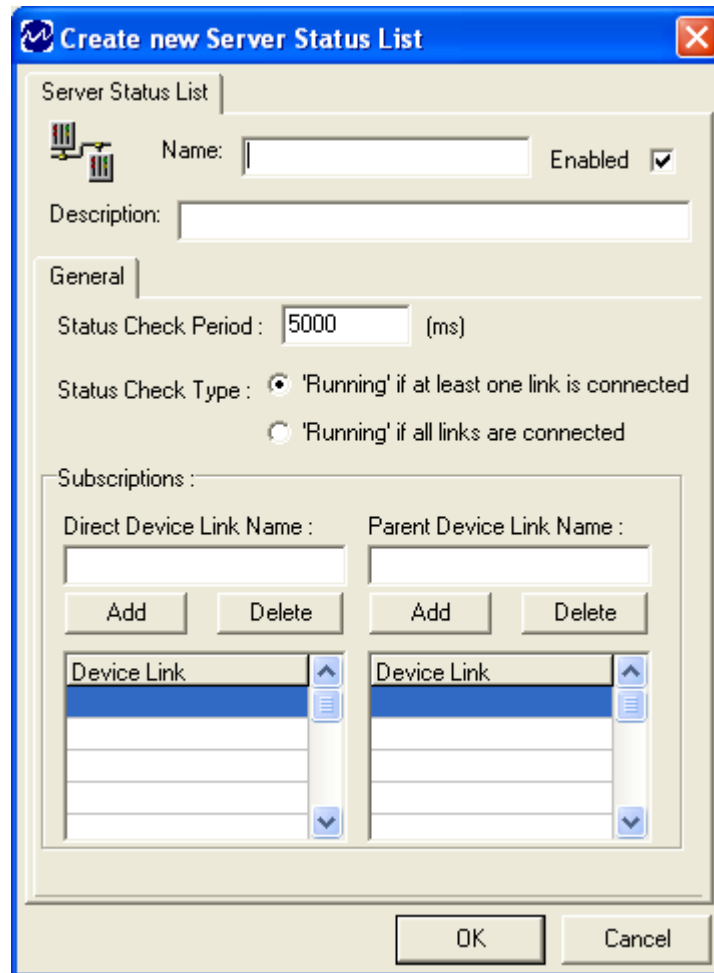

Figure 18 - Create New Server Status List Window
The **Create New Server Status List** window (Figure 18) displays the settings available for configuring a Server Status List object.
5. The **Create New** window appears (Figure 18).